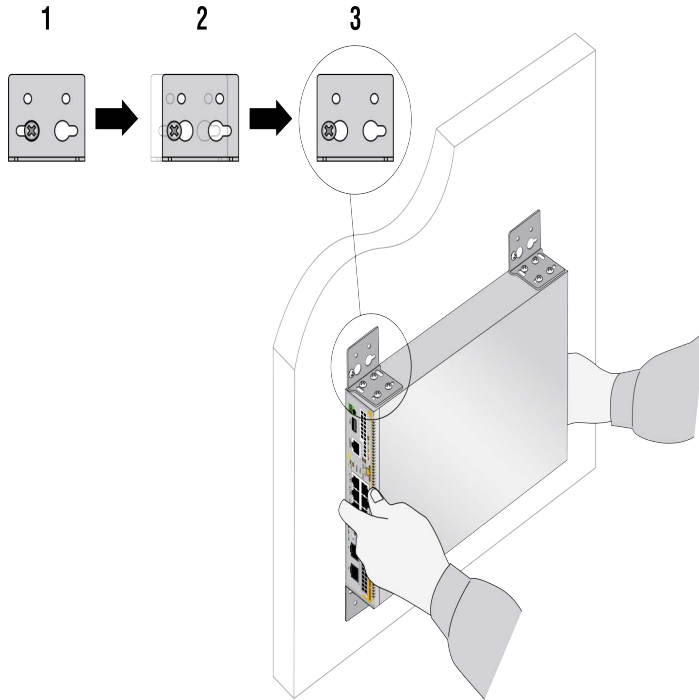

Figure 51. Securing the Chassis Using the Keyhole
10. After four brackets have been screwed into the wall using the keyhole, move the switch (left or right as appropriate) so that the screws are in the narrow part of the keyhole. Refer to Figure 51 on page 82.